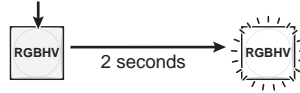

Figure 3-38 — Select RGB Delay mode
2. Press and **hold** the RGBHV button for approximately 2 seconds (figure 3-38).